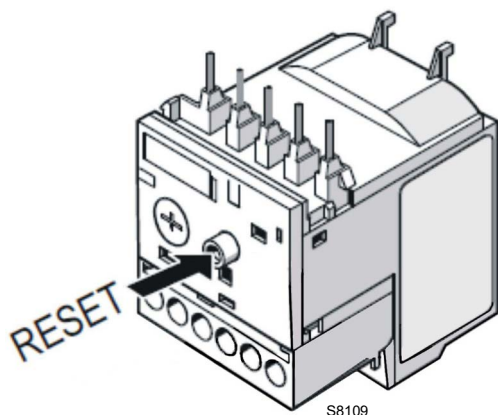

Fig. 30
- To reset, in the case of an intervention of the thermal relay, press the button "**RESET**" (Fig. 30).